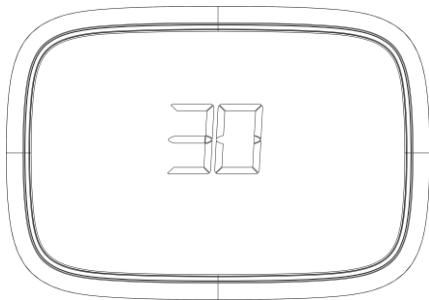

Fig.2 8.
1. Press and hold the  key for approximately 3 seconds until the screen changes. Thermostat locks out all touch keys for 30 seconds to allow for cleaning. See Fig. 2 8.
When finished, press  key to return to the Home Screen and normal operation. See Fig.2 9.